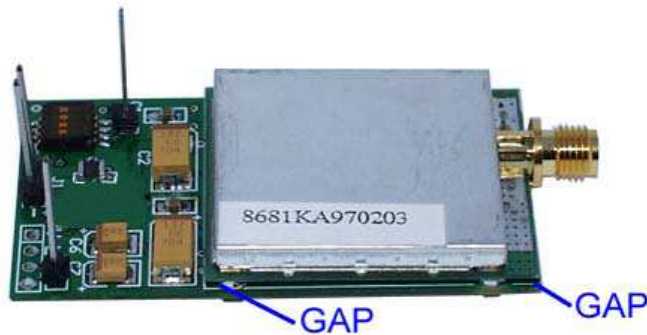

Figure 6, RF Module Installation
7 RF MODULE INSTALLATION: See Figure 6.
- 7.1 Place the RF module on the PCB (Side ③). It will have a gap between it and the PCB. It does NOT sit flush. See Figure 6 for details.